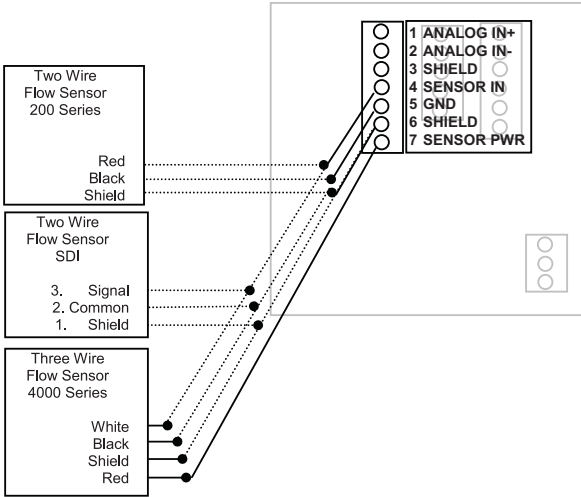

Figure 5: Data industrial flow sensor wiring examples (two- and three-wire pulse types)
**NOTE:** All the above pulse input types wire the same as shown in *Figure 5* on page 7. See "*Programming Flowchart—Software Version 1.2.29*" on page 13 for required input configuration.